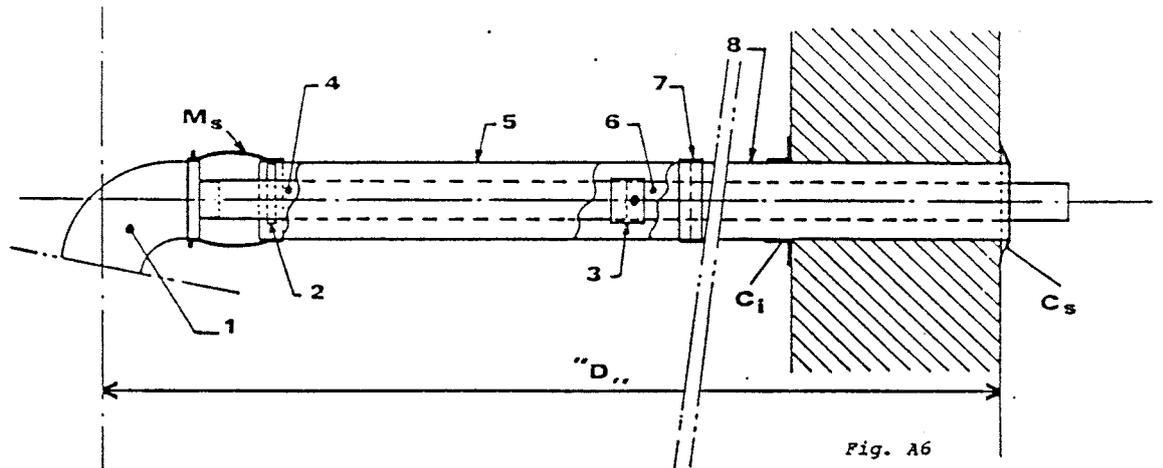

Fig. A6
7.5.2. MICROVENTOUSE STANDARD PLUS RALLONGES (Fig. A6)
● EXEMPLE DE MONTAGE AVEC UNE PAIPE DE "RALLONGES" (Fig. A6)